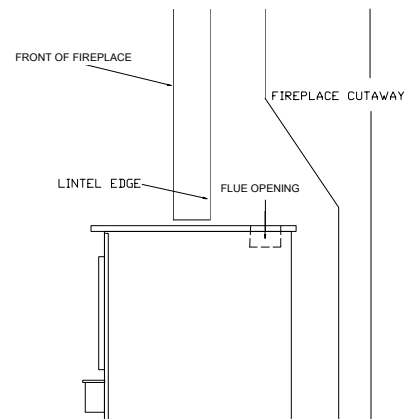

FIGURE 5 POSITIONING
When positioning heater, the following conditions **MUST** be met! (See Figure 5).
1. The front of flue opening must be positioned **BEHIND** rear edge of the lintel to ensure proper draft. (See Figure 5).